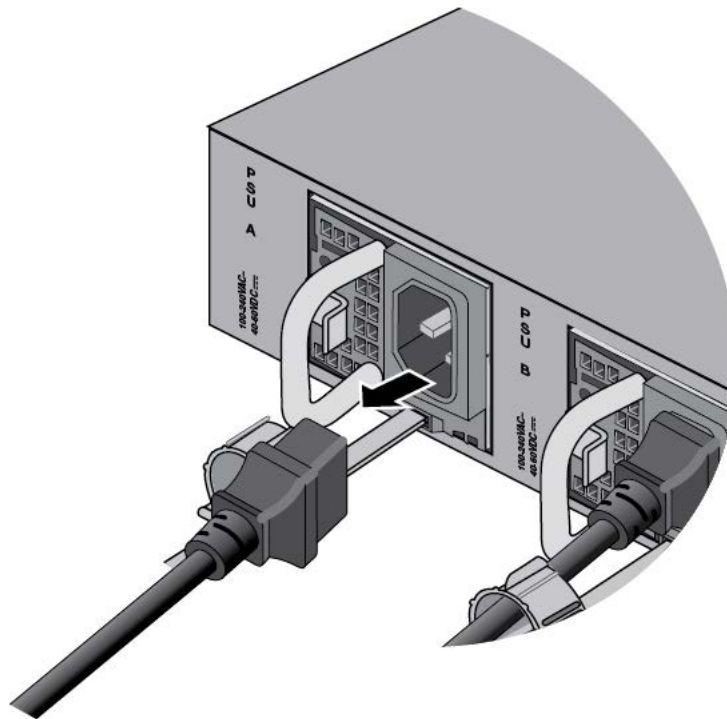

Figure 132. Disconnecting the Power Cord from the Power Supply
3. Disconnect the power cord from the power supply. Refer to Figure 132.